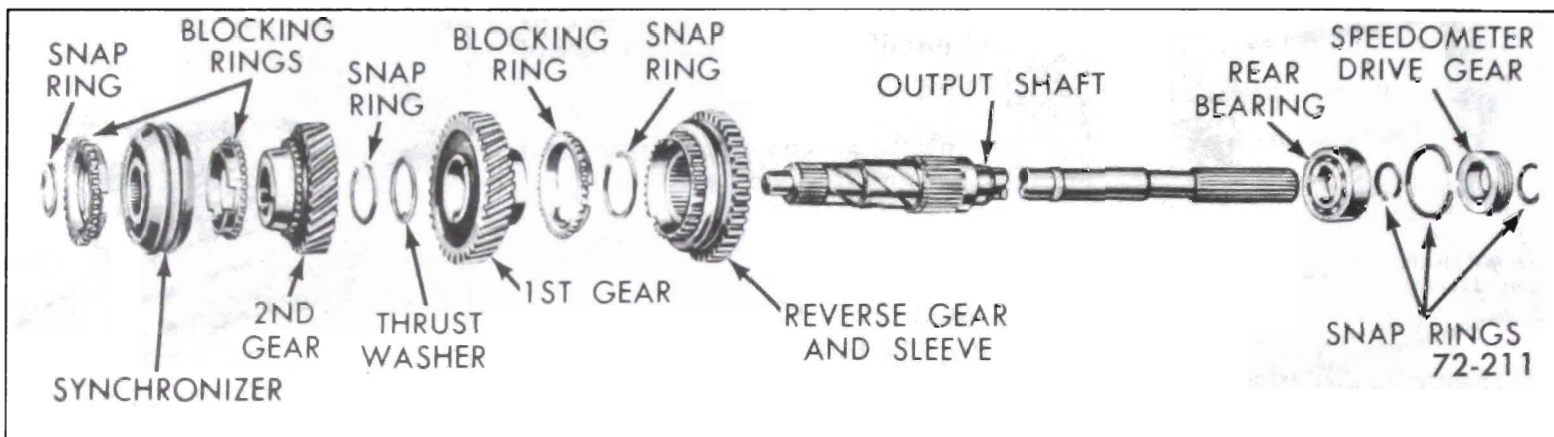

Figure 72-211 - Exploded View of Mainshaft
### 72-5 DISASSEMBLY OF MAINSHAFT (SEE FIGURE 72-211)
7. Slide the first-reverse gear and sleeve assembly onto mainshaft with teeth of gear facing toward rear of shaft and secure with snap ring. See Figure 72-211.
8. Coat tapered machine surface on first speed gear with grease. Place blocking ring on greased surface. See Figure 72-211.
9. Slide first speed gear onto mainshaft with blocking ring toward rear of shaft. Rotate gear as necessary to engage three notches in blocking ring with synchronizer inserts. See Figure 72-211.
13. Slide second speed gear with blocking ring and second-third speed gear synchronizer onto mainshaft. Tapered machined surface of second speed gear must be toward the front of shaft. See Figure 72-211.